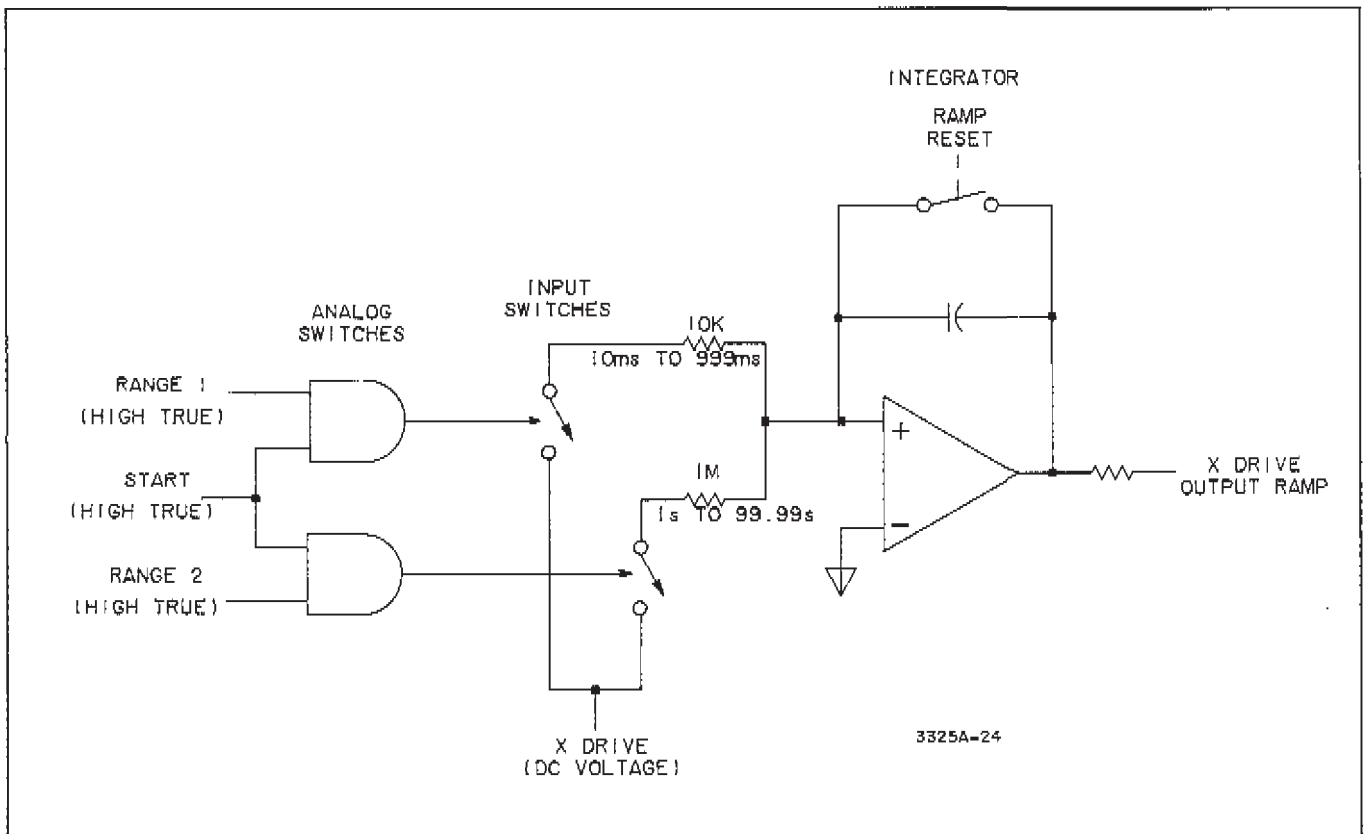

Figure 8-24. X Drive Ramp Output.
**8-86. X Drive.** The output of the X Drive Start/Stop flip-flop (Figure 8-24) is set high by the low true Start signal and is returned to low by the Sweep Limit Flag pulse that occurs at the end of the sweep. The Start signal remains low until just before the end of sweep to prevent the Sweep Limit Flag pulse that sets the Marker flip-flop from also changing the X Drive flip-flop. The marker frequency and stop frequency points must be separated by approximately 400 microseconds to allow time
**8-87.** The high output from the Start/Stop flip-flop is used to turn on one of two analog switches, depending upon which Range signal is high. Range 1 is high for sweep times of 0.01 second to 0.999 second, and Range 2 is high for times of 1 second to 99.99 seconds. As illustrated in Figure 8-24, each analog switch turns on a switch for the duration of the sweep, providing current to an integrator whose output is the X Drive ramp. The value of the current to the integrator depends upon the X Drive analog voltage and the resistance in the integrator input circuit. The resistances are fixed at 10 kilohms for Range 1 and 1 megohm for Range 2. The value of the X Drive voltage is supplied from the D/A Converter and Sample/Hold circuits (see Paragraph 8-53) and is calculated by the control circuits to provide the proper current to increase the X Drive Output Ramp from 0 V to +10 V during the sweep time selected.